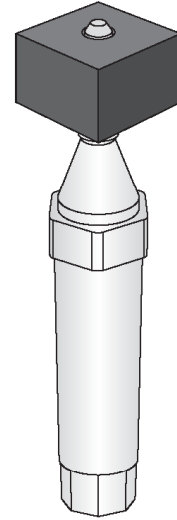

Figure 3
- 6.1. Snap a Mag Capsule onto each nRicher Capsule (see Figure 3, page 8), and then place the Cartridge Rack into the Revolution Processor.